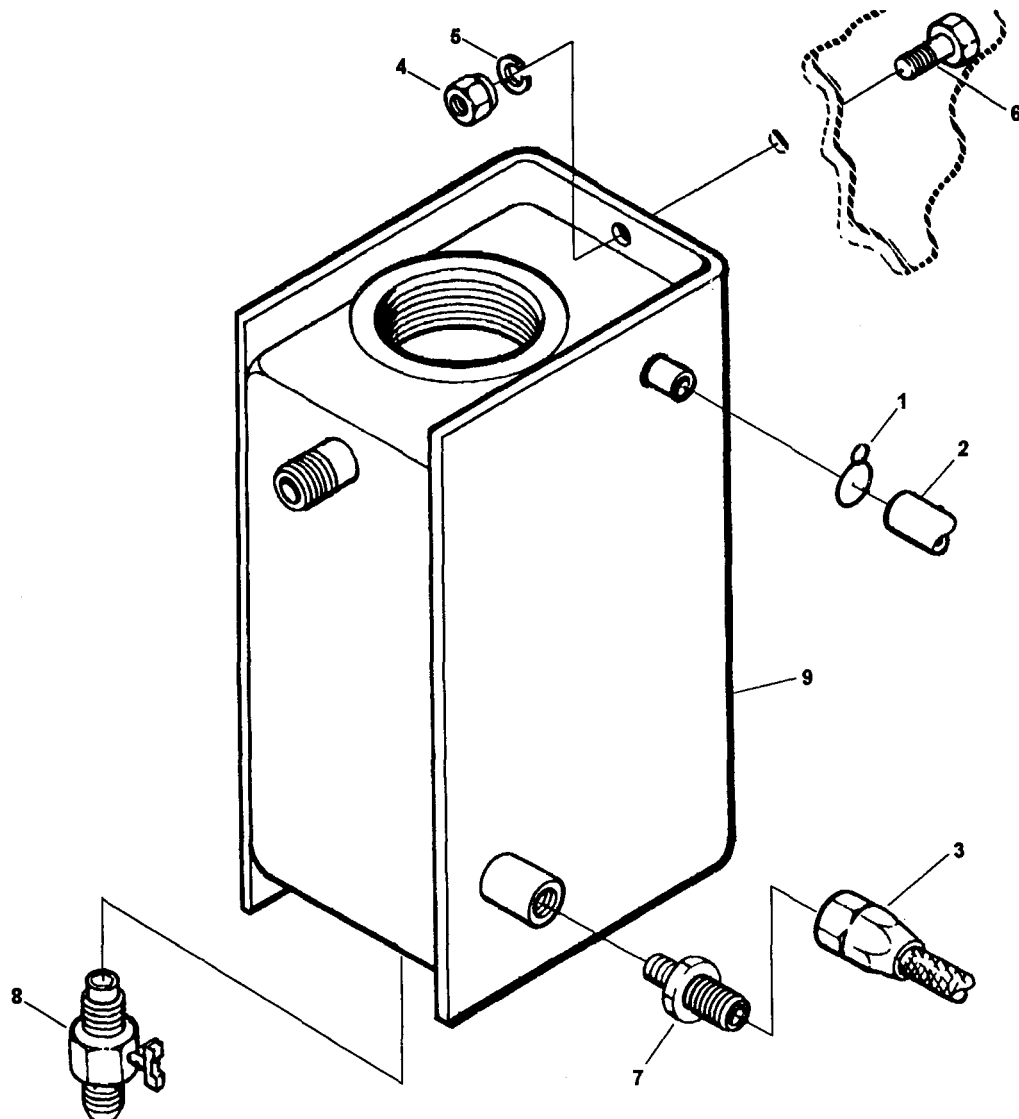

Figure 4-17. Day Tank Assembly, Removal and Installation
- (1) Refer to paragraph 3-21 and drain the day tank.
- (2) Refer to paragraph 4-25 and remove fuel solenoid valve and rectifier assembly.
- (3) Refer to paragraph 4-24 and remove day tank fuel level and low fuel cutoff switch.
- (4) Refer to paragraph 4-34 and remove starting aid ether tank and solenoid valve.
- (5) Loosen spring clamp (1, Figure 4-17) and remove vent tube (2).
- (6) Disconnect fuel hose assembly (3).
- (7) Remove nuts (4), lockwashers (5) and screws (6) to remove day tank with assembly parts.
- (1) Install screws (6, Figure 4-17), lockwashers (5), nuts (4).
- (2) Reconnect fuel hose assembly (3).
- (3) Install vent tube (2) and tighten spring clamp (1).
- (4) Refer to paragraph 4-34 and install starting aid ether tank and solenoid valve.
- (5) Refer to paragraph 4-24 and install day tank fuel level and low fuel cutoff switch.
- (6) Refer to paragraph 4-25 and install fuel solenoid valve and rectifier assembly.
- (7) Fill the day tank.